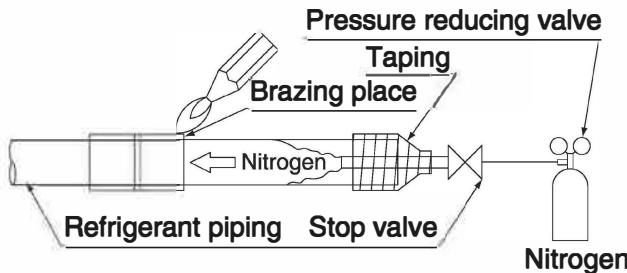

Fig. 17
- Before brazing refrigerant piping, have nitrogen flow through the refrigerant piping and substitute air with nitrogen (NOTE 1) (Refer to Fig. 17). Then, carry out brazing (NOTE 2). After all the brazing works are finished, carry out flare connection with the indoor unit. (Refer to Fig. 16)